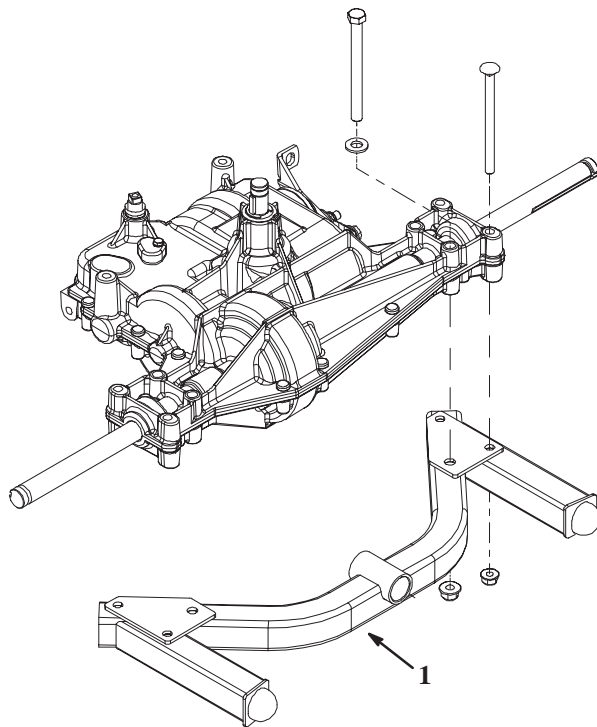

Figure 3
6. Raise the sulky hitch up onto the new bolts. Position as shown in figure 3.
7. Secure the hitch to the transaxle with (4) 5/16 in. and (2) 3/8 in. nuts (Fig. 3).